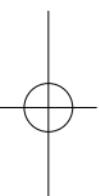

**FIGURE 8**
**TAMPER RESIST LOCKING PIN:** To make your smoke alarm tamper resistant, a locking pin has been provided with your alarm. Using this pin will help deter children and others from removing the alarm from trim ring. To use the pin, insert it into the hole in the side of the alarm after the alarm has been installed on the trim ring (see figure 8). NOTE: The tamper resist pin will have to be removed in order to change the batteries. Use long nose pliers to pull the pin out of the hole. It is now possible to remove the alarm from the trim ring.